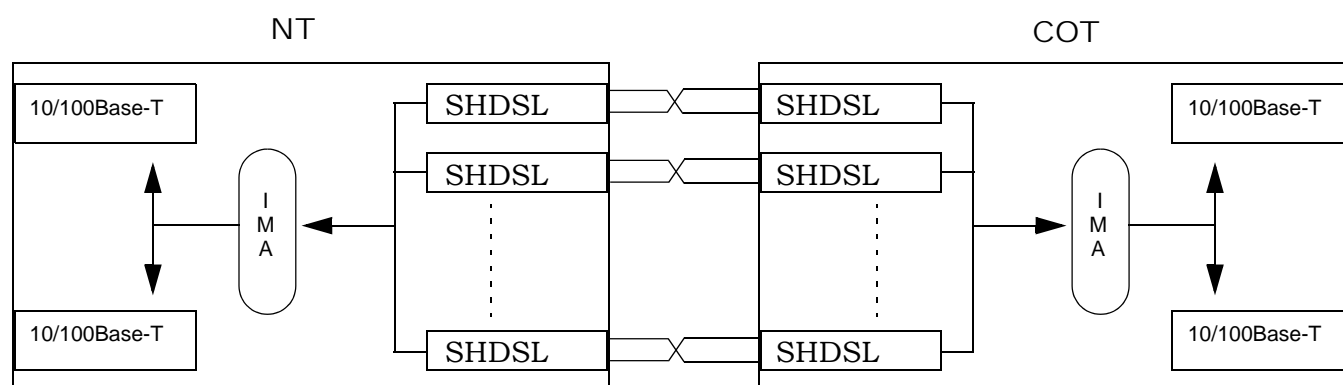

Figure 3. Typical Campus Application
Figure 3 shows a typical campus application. One Total Access 238 is configured as a Network Termination (NT) device, and the other Total Access 238 is configured as a Central Office Termination (COT) device. A copper pair connects each of the desired SHDSL lines between the two devices. The network connected to the 10/100Base-T connector of the NT device is bridged to the network connected to the 10/100Base-T connector of the COT device, thus forming a single Local Area Network (LAN).